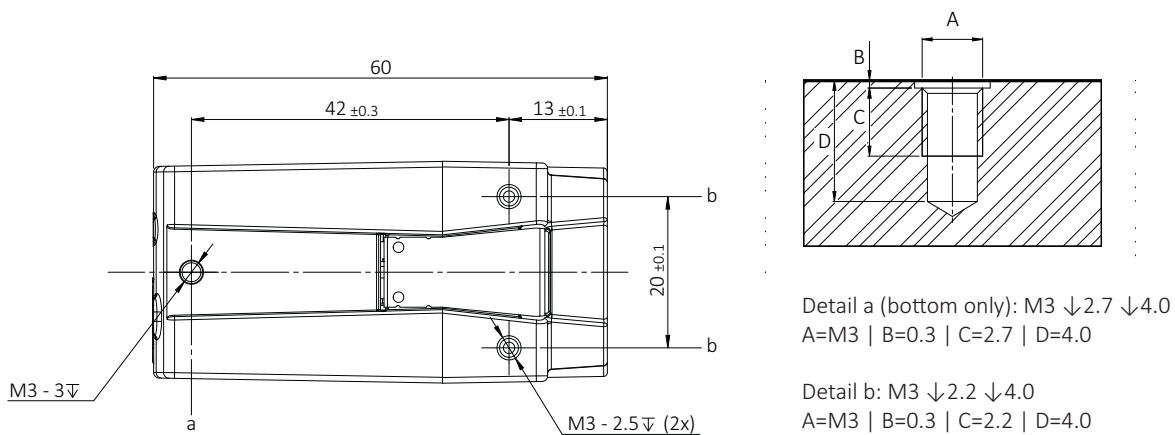

Figure 29: Mounting threads bottom (a and b) and top (b)
1. As shown in Figure 29, mount the camera to the base using suitable M3 screws
- a. Mounting thread a (bottom only): At 0.62 Nm maximum torque for a thread engagement (C) of 2.7 mm between screws and mounting threads.
- b. Mounting thread b: At 0.51 Nm maximum torque for a thread engagement (C) of 2.2 mm between screws and mounting threads.